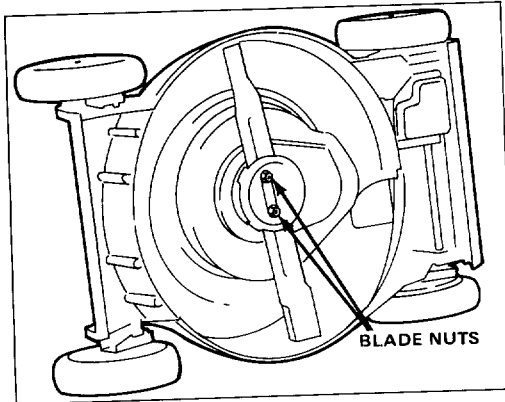

Figure 20
3. Tip mower on its right side (Fig. 20). Avoid rotating blade. Starting problems may result.
5. **REMOVING BLADE** – Grasp end of blade using a rag or thickly padded glove. Remove blade nuts, anti-scalp cup, blade, blade spacer and rotating screen (Fig. 20 & 22).